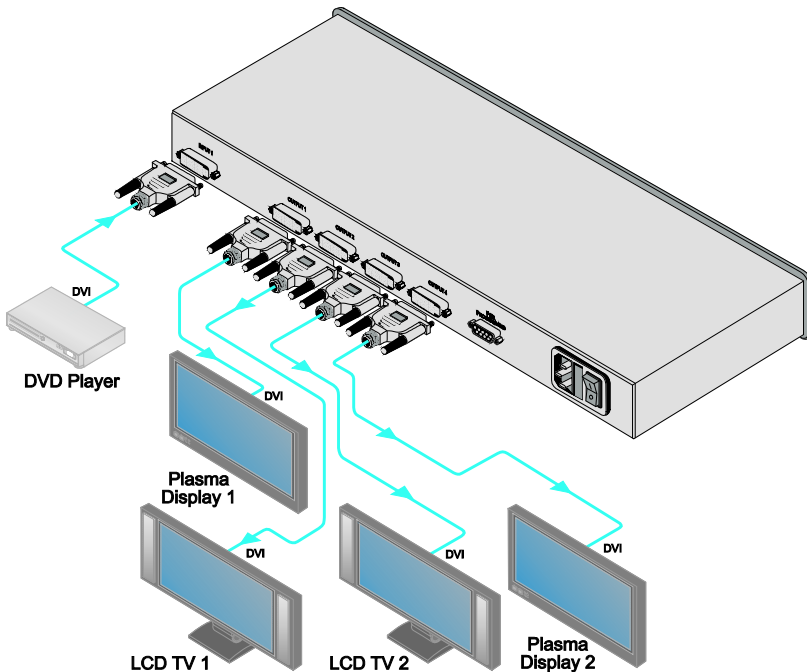

Figure 2: Connecting a VM-4HDCPx1 1:4 DVI Distributor
To connect the **VM-4HDCPx1**, as illustrated in the example in Figure 2, do the following1:
3. Connect the power cord to the mains electricity (not shown in Figure 2).